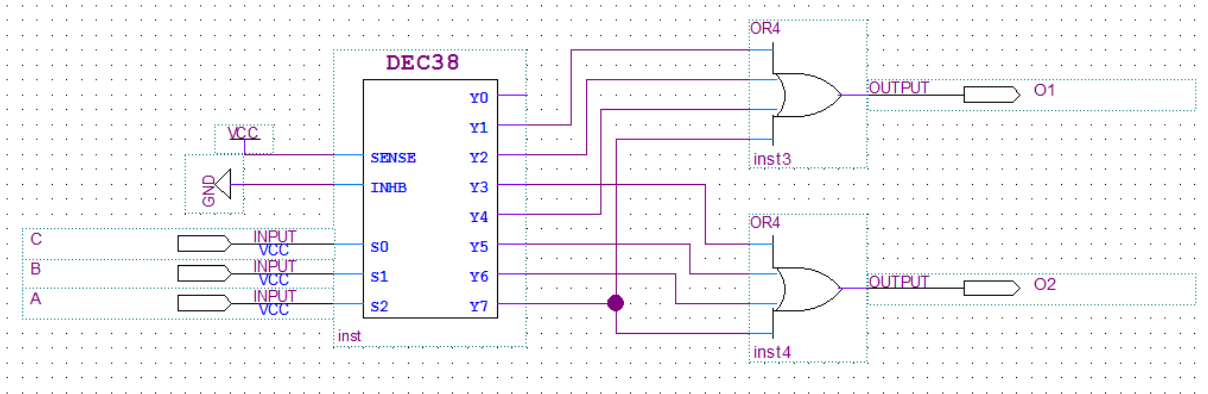

Figure 1 (Block named as ‘first’ in Figure 2)
- Build the hierarchical component in Figure 1 and create a new symbol using the schematic. Note that DEC38 is a 3x8 decoder. You can find it within the component list.
- What is the function (name) of this component (Figure 1)?